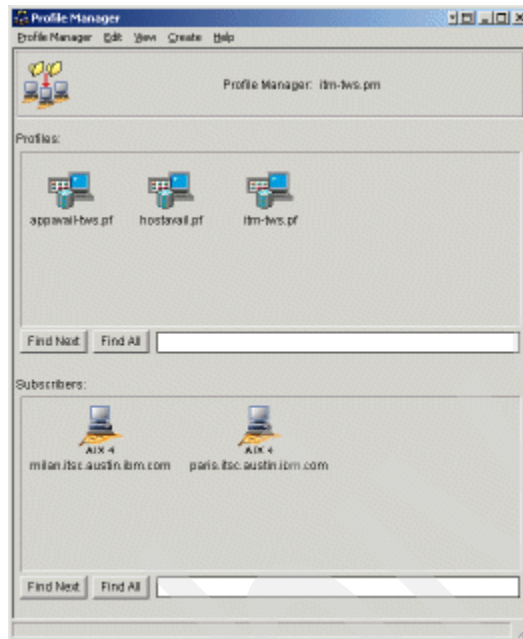

Figure 9-135 Profile manager itm-tws.pm
1. Open the itm-tws.pm profile manager as shown in Figure 9-135.